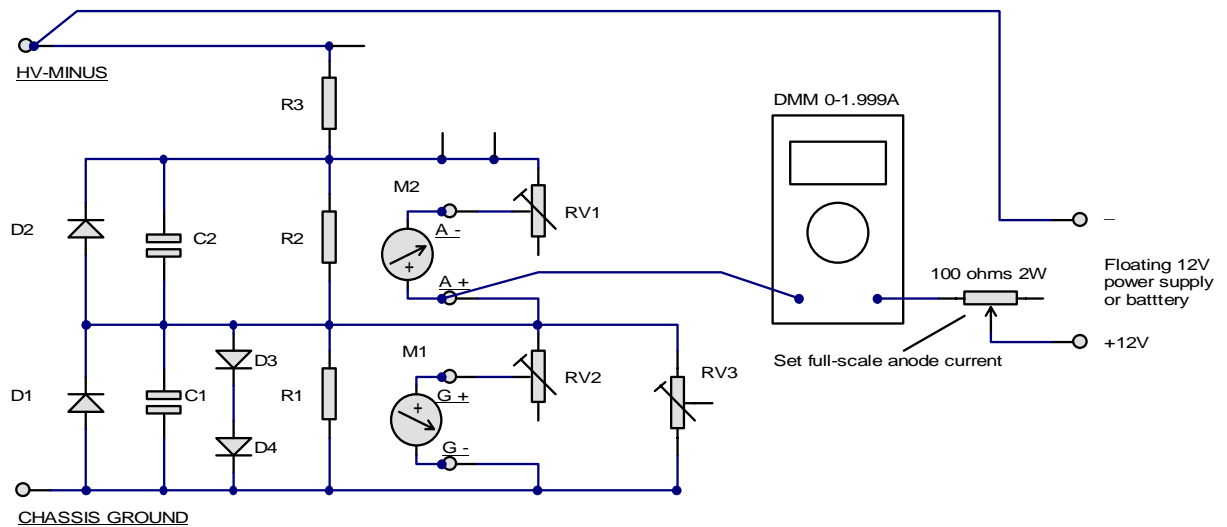

Figure 10: Calibration setup for anode current meter. Alternatively you can use a variable voltage/current power supply.
2. Connect a 100Ω 2W variable resistor to the positive terminal of your power supply, and in series with this connect an accurate current meter to the A+ terminal (see Figure 10 above). Connect the negative terminal of your power supply to the HV-MINUS terminal. This will allow you to pass a known current through the anode meter shunt R2 (and also the anode current trip resistor R3 – see Section 6.3.3 later).
1. Reconnect the temporary anode current setup as shown in Figure 10. Set RV5 fully counter-clockwise.